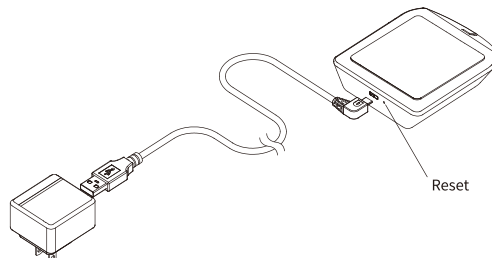

Figure 2
To connect the device to a new WiFi, use the pin to press the reset button (Figure 2). The LED will blink quickly during reset, and slow blinking indicates the device is ready to connect to a new WiFi.
Connect the micro USB (B) to the ERGOHUB (A) and charger (C) to the power socket. When connected successfully (Figure 2) the LED lights will blink.